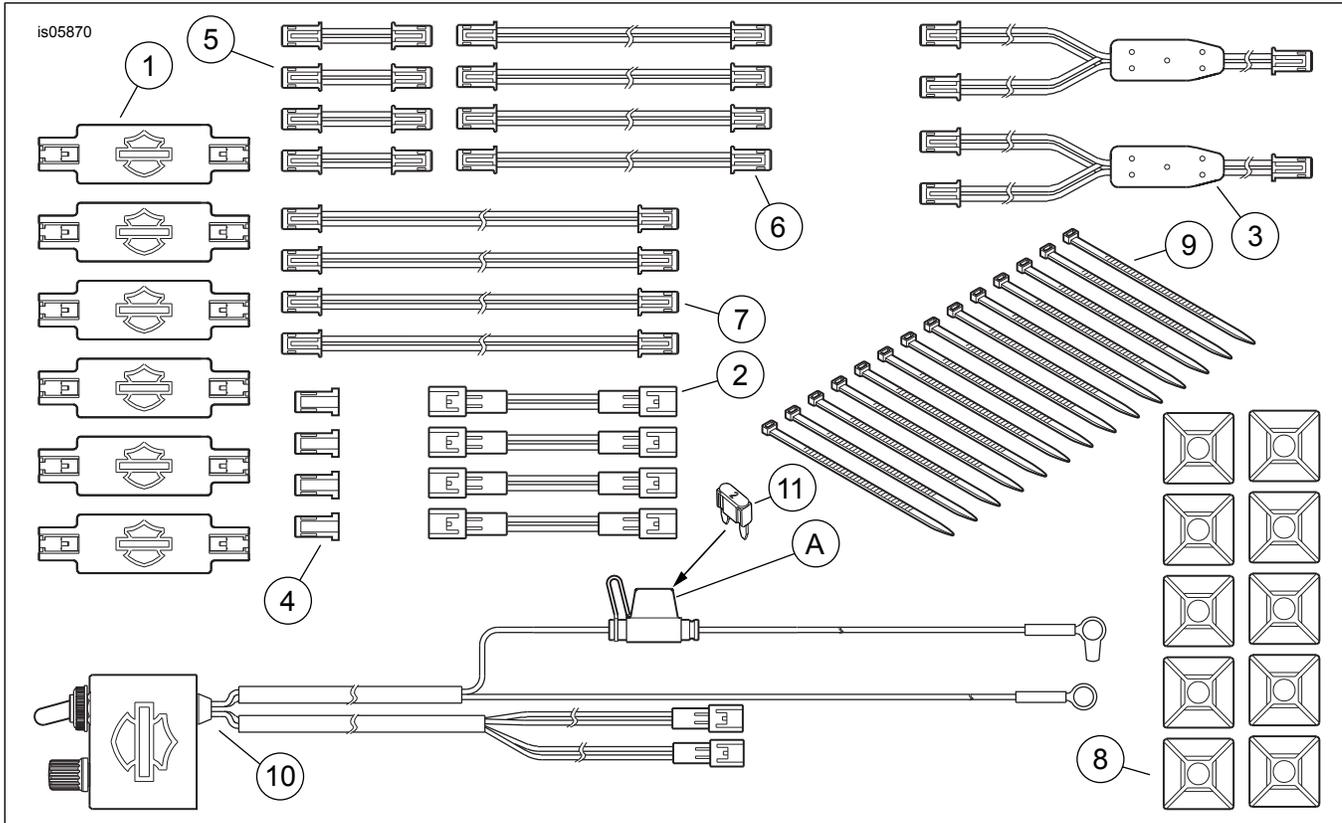
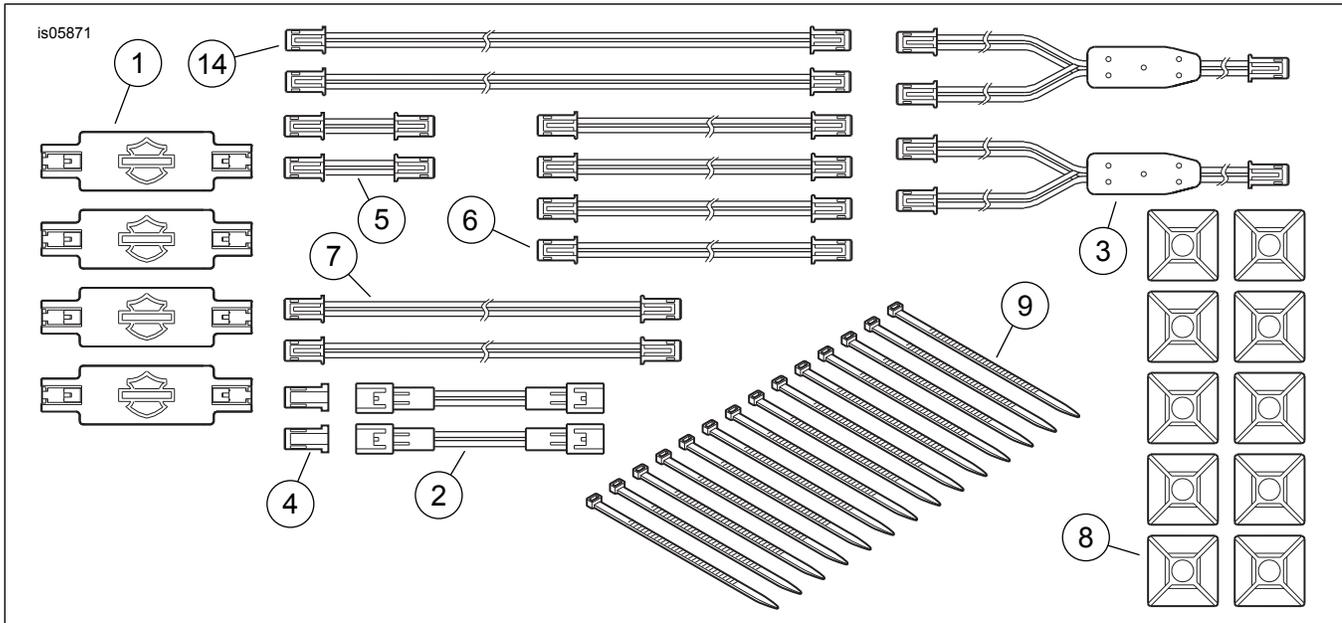

Figure 2. Service Parts, Electra-Glo Light Pod Kits
Figure 3. Service Parts, Electra-Glo Light Pod Expansion Kits
See Figure 2, Figure 3, and Table 3.
1. See Figure 2. Locate the controller box (10) on a flat surface that will allow the red (+) and black (-) leads to reach the battery terminals and the rider to access the controls (with the vehicle parked) and, if necessary, the in-line fuse holder (A).